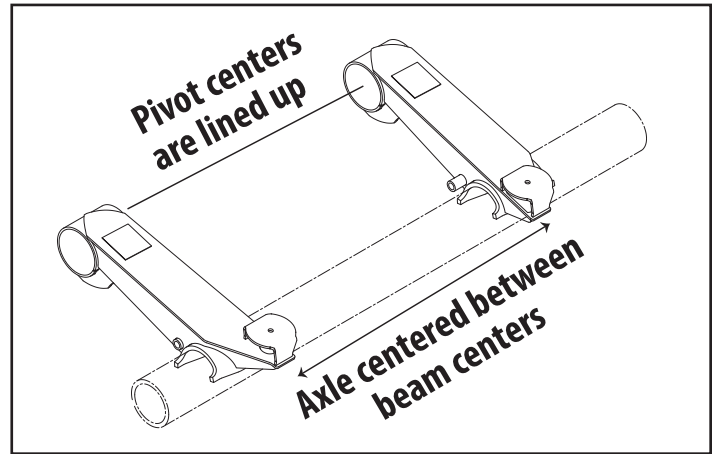

Figure 4.
1. Center the axle assembly on the beam centers (Figure 4).